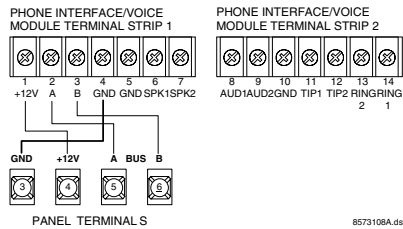
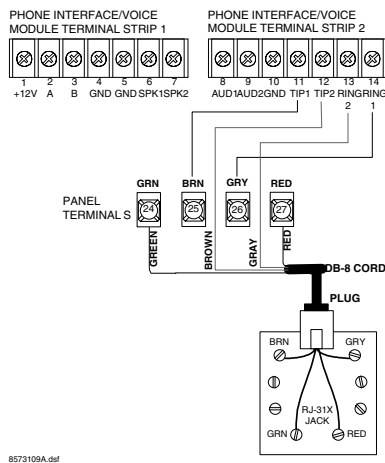
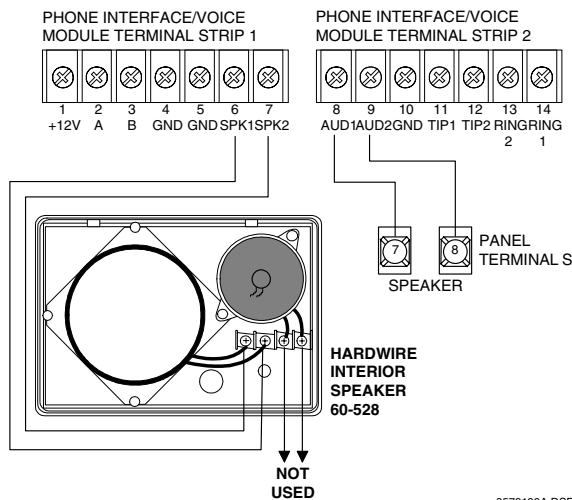

FIGURE 2-16. Wiring the Power and Bus Terminals.
FIGURE 2-17. Wiring the Phone Connection.
FIGURE 2-18. Wiring the Hardwire Interior Speaker.
1. Connect the module to the panel power and bus terminals as shown in Figure 2-16.
2. Connect the phone line to the Phone Interface/Voice Module and panel terminals as shown in Figure 2-17.
3. Connect an interior speaker to the module terminals as shown in Figure 2-18.
If you are using a SuperBus 2000 Phone Interface/Voice Module, see Figure 2-16, Figure 2-17, and Figure 2-18.